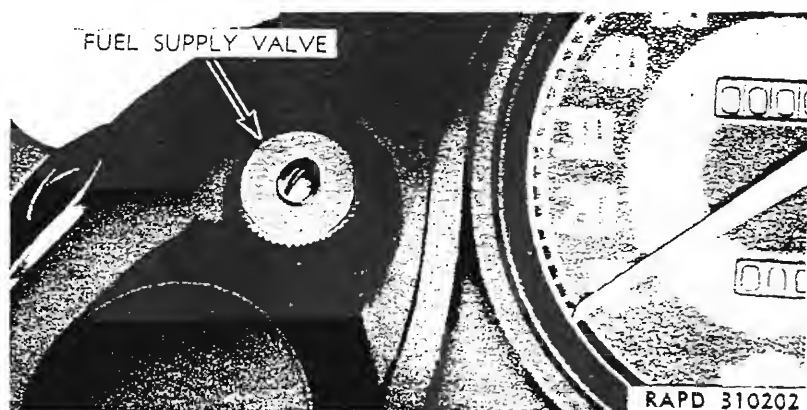

Figure 5—Fuel Supply Valve
b. Gasoline Valve (figs. 5 and 6). Gasoline valve is located in left tank, forward. Valve is closed by turning to the right, finger tight. Turning to left opens valve. Valve is in normal operating position
(2) See that gasoline shut-off valve is open (fig. 5).